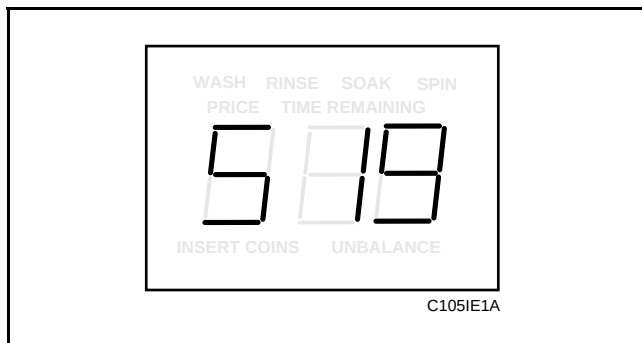

Figure 5
2. While pressing and holding the PERM PRESS keypad with one hand, press the COLD keypad with the other hand. Programmable option number one, “Slg”, will appear in the VFD. See **Figure 5**.